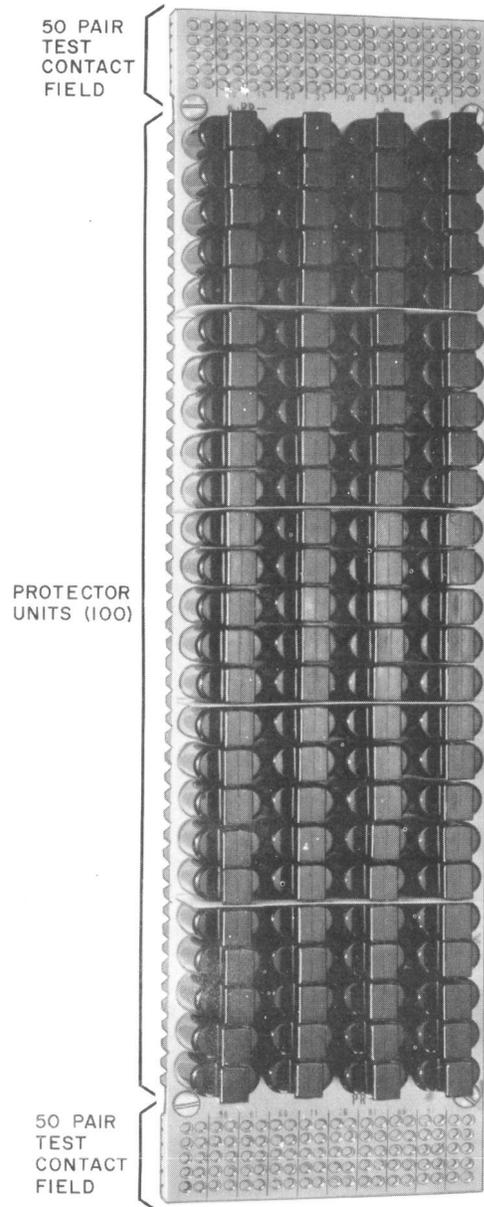

Fig. 2—302-Type Connector (With Protector Units Installed)
5.01 A 302-type connector for ESS is shown in Fig. 2. The 302-type is supplied in two series. The 302A1 connector is supplied with a 24-gauge stub cable conductor. The 302B1 is supplied with a 22-gauge stub cable conductor. A series of number affixes assigned to the 302-type connectors (ie, 302A1A-100) identifies the length of the cable stubs supplied with the connector. This number example indicates that the cable stub is 100-feet long.